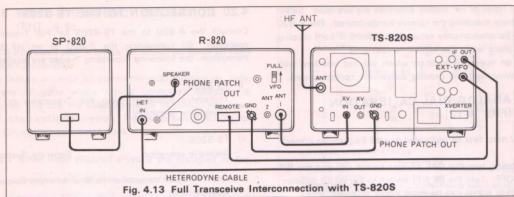

Fig. 4.13 Full Transceiver Interconnection with TS-820S
4.20.1 Cabling for Full Transceiver Operation (Fig. 4-13)
Connect as shown in Fig. 4-13. The TS-820S IF OUT jack and EXT VFO connector must be rewired: refer to Section 4.24, modification of the TS-820S.